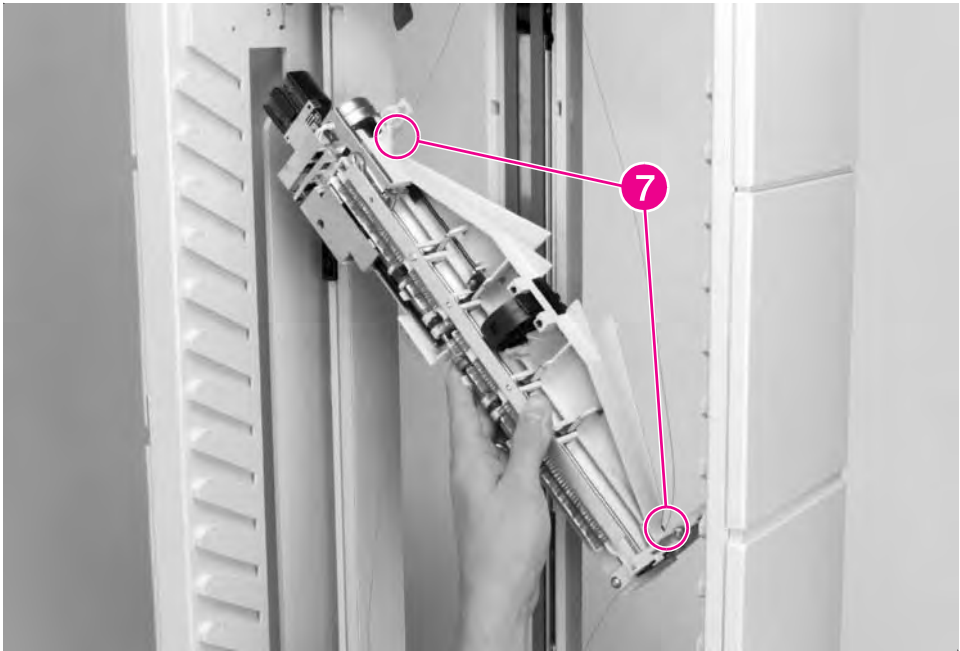

Figure 6-170 8-bin Mailbox Delivery Head Assembly (4 of 4)
- 10** Release the Anticurl Strings from the pulleys on each end of the Delivery Head Assembly (Figure 6-170, callout 7).